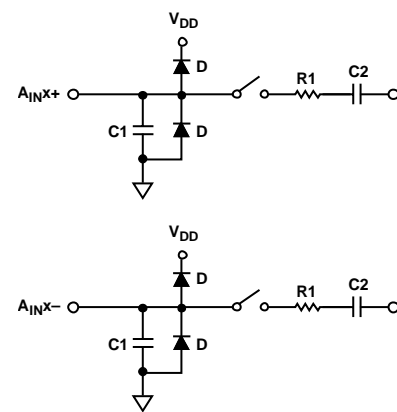

Figure 31. Equivalent Analog Input Circuit, Conversion Phase—Switches Open, Track Phase—Switches Closed
Figure 31 shows the equivalent analog input circuit of the AD7383 and the AD7384. The four diodes (D) provide ESD protection for the analog inputs. Ensure that the analog input signals do not exceed the supply rails by more than 300 mV. Exceeding the limit causes these diodes to become forward-biased and start conducting into the substrate. These diodes can conduct up to 10 mA without causing irreversible damage to the devices.
The  $C_1$  capacitors in Figure 31 are typically 3 pF and can primarily be attributed to pin capacitance. The  $R_1$  resistors are lumped components made up of the on resistance of the switches. The value of these resistors is typically about 200  $\Omega$ . The  $C_2$  capacitors are sampling capacitors of the ADC with a capacitance of 15 pF typically.